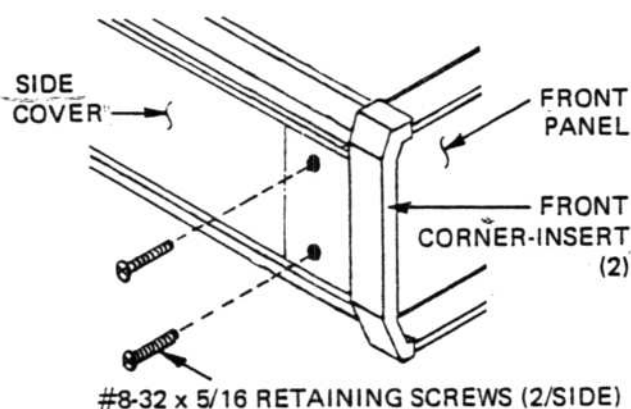

Figure 5.11 - Front Corner Insert Removal
5.4.3.5 Front Panel/Front Panel Display PCB Assembly - refer to Figures 5.11 and 5.12 during the following procedure.